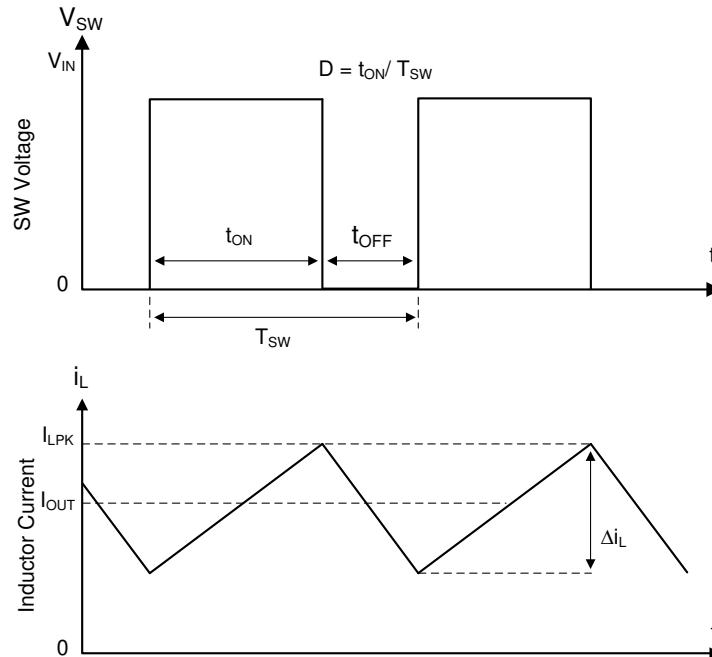

図 7-1. SW Node and Inductor Current Waveforms in Continuous Conduction Mode (CCM)
The following operating description of the LMR516xx refers to the Functional Block Diagram and to the waveforms in Figure 7-1. The LMR516xx is a step-down synchronous buck converter with integrated high-side (HS) and low-side (LS) switches (synchronous rectifier). The LMR516xx supplies a regulated output voltage by turning on the high-side and low-side NMOS switches with controlled duty cycle. During high-side switch ON time, the SW pin voltage swings up to approximately V_{IN} , and the inductor current, i_L , increases with a linear slope of $(V_{IN} - V_{OUT}) / L$. When the high-side switch is turned off by the control logic, the low-side switch is turned on after an anti-shoot-through dead time. Inductor current discharges through the low-side switch with a slope of $-V_{OUT} / L$. The control parameter of a buck converter is defined as Duty Cycle $D = t_{ON} / T_{SW}$, where t_{ON} is the high-side switch ON time and T_{SW} is the switching period. The converter control loop maintains a constant output voltage by adjusting the duty cycle D . In an ideal buck converter, where losses are ignored, D is proportional to the output voltage and inversely proportional to the input voltage: $D = V_{OUT} / V_{IN}$.